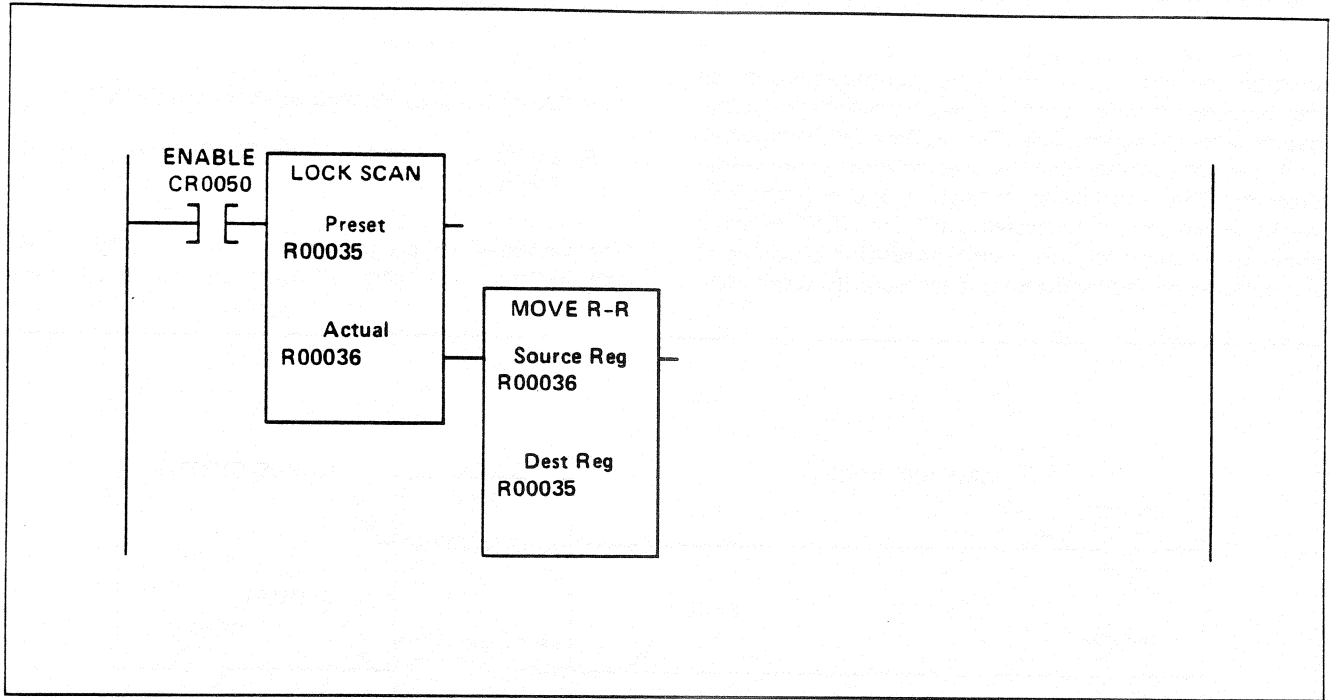

Figure LS-2. Worst Case Scan Circuit
The Lock Scan function can be used with the Move Register-to-Register function (050) to determine the "worst-case" scan time of a ladder diagram. (See Figure LS-2.) Whenever the overtime output of the Lock Scan function occurs, the Actual time from register R00036 is transferred to the Preset Register, here R00035. After running through several typical machine or process cycles, the preset time of the Lock Scan function will contain the worst-case scan time of the machine or process being monitored.